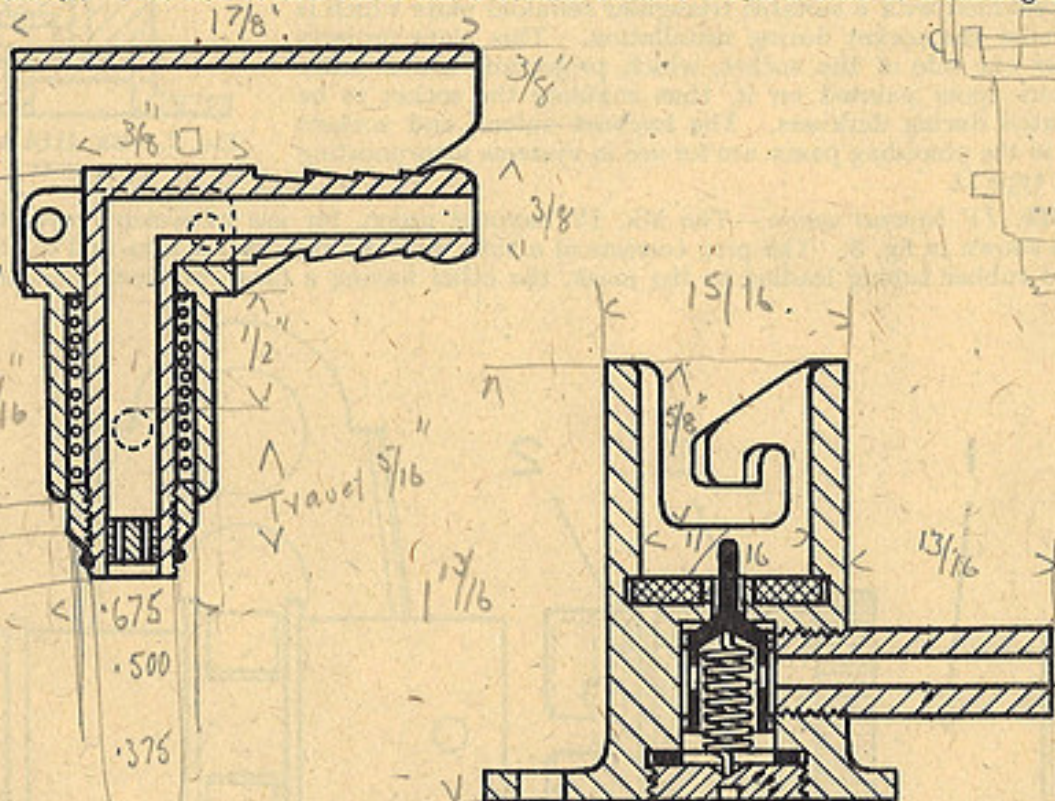

FIG. 1.—Mk. IIIB* BAYONET UNION
2. *Mk. IIIB* bayonet union.*—The Mk. IIIB* bayonet union is shown in fig. 1. The socket is about one inch in external diameter and is hollowed out to take the plug. The walls which are about $\frac{1}{8}$ in. thick, have two bayonet slots cut in them. The inlet consists of a plain tube fixed into the side of the socket near the base and designed to fit a low-pressure union, also a rubber washer is fitted into a groove at the outlet of the socket. Fitted in the body of the socket is a non-return valve, which closes when the plug is withdrawn. This feature prevents excessive leakage during transference of a plug to another more conveniently situated socket to suit the working conditions of the operator. This non-return valve has a conical surface which is held to a seating by a small